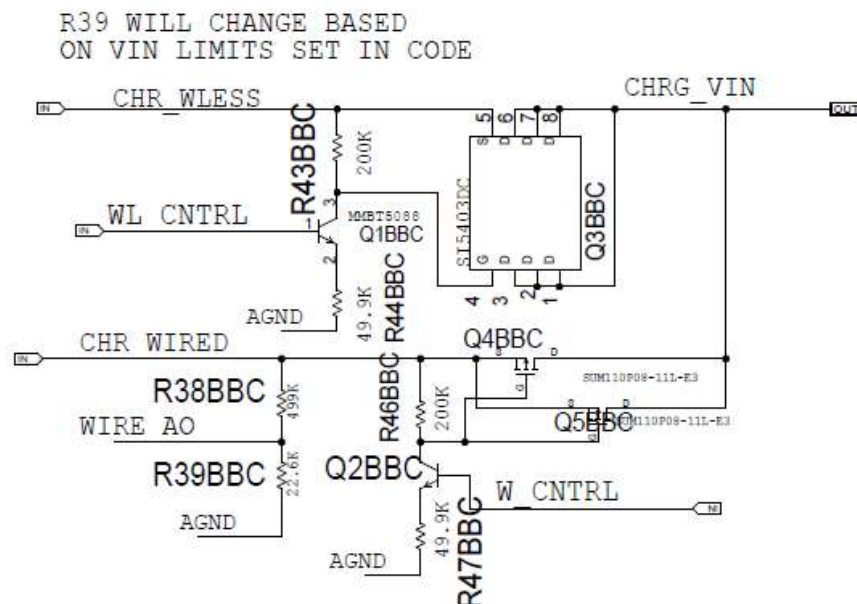
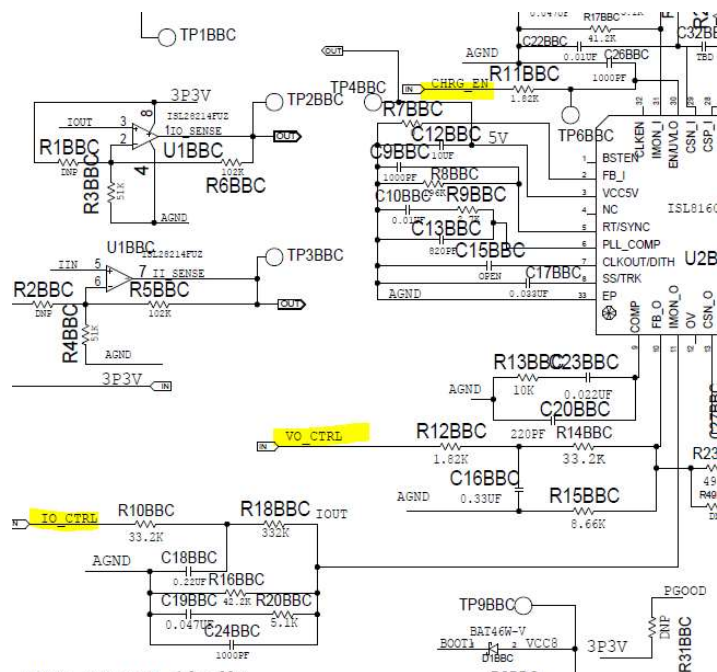

Figure 9-1: Control Circuitry That Selects Which Input Connects to the Charger
Figure 9-3: Connections to the Charger that are Reinitialized at Charger Initialization
The W_CNTRL and WL_CNTRL control the PMOS ON state via an NPN resistor as shown in Figure 9-1. The charger's regulation voltage and current are controlled by PWM pin that makes a cheap DAC when connected to a low pass filter. See Figure 9-3. The pin's PWM frequency is reset, and the pins' functions stop in this routine.
CHG_WL_CNTRL is a control pin that connects the wireless power output (~20V) to the charger circuit through a PMOS. A low (0) setting turns off the NPN that connects to the PMOS gate. The result is a PMOS that is OFF. See Figure 9-1. All pins' names are similar to the net names in Table 5.
The *chg_wired_charger_check()* routine reads the voltage at the wired charger input port (CHR_WIRED; Figure 9-1) to determine if a charger is connected to the port.
The code internally checks the voltage. The MCU, using the AN16 (P11) pin, reads the WIRE_AO (Figure 9-1) voltage by switching the multiplexer's input to it. If the voltage is greater than 10V, then the line present bit is set to PRESENT. A comparison is made to check if the wrong voltage charger is connected to the port. This sets the WPF (Table 12: System Variables) bit to high (1). The check closes out the routine by changing the pin to an interrupt and configuring the multiplexer to the original position.
The *chg_wired_charger_connect()* configures and connects the charger (ISL81801) to the battery. The code measures the internal reference that determines the full range and step size of the MCU ADC. The system is placed in a safe state by turning OFF any power FETs between the battery and charger or motor. The input P channel MOSFETs (Figure 9-1) that connects the charger to the wired or wireless ports is disconnected by setting the control signals ($\sim\text{W_CNTRL}$ and $\sim\text{WL_CNTRL}$) to 0. This turns OFF the NPN allowing the gate to source voltage to equal 0.
The charger's regulation voltage is programmed to a few hundredths of the measured unloaded pack voltage. When CFET (Charge FET) is turned ON, there is less of a transient between the system. The regulation voltage and current are controlled by the pulse width modulated (PWM) pins from the MCU. See Figure 9-3.
The regulation current is controlled by modulating the IO_CNTRL pin of the MCU (PA3). From the PWM signal, a voltage is established at the R10BBC/ C18BBC node (Figure 9-3) (Control Current). The voltage sets the clamping current to the battery, enabling a constant current charging.